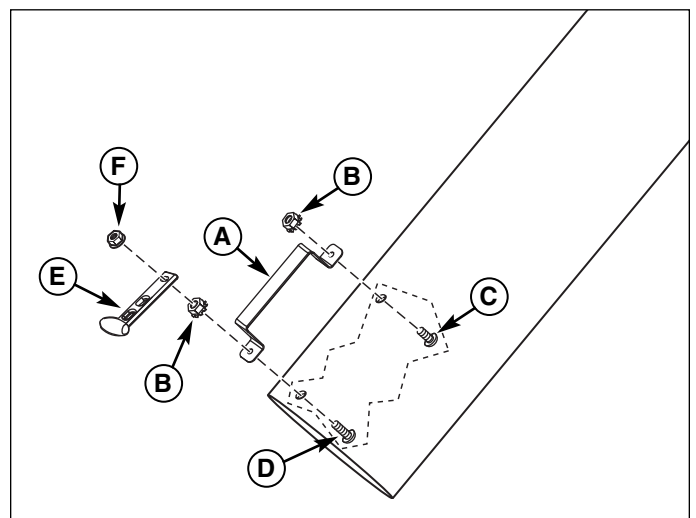

Figure 4. Handle to Tube Installation
1. Install handle (A, Figure 4) using screw (C) and locknuts (B) for rear hole. Use screw (D) as shown. Tighten hardware.
2. Install strap (E) to screw (D) and secure with locknut (F).